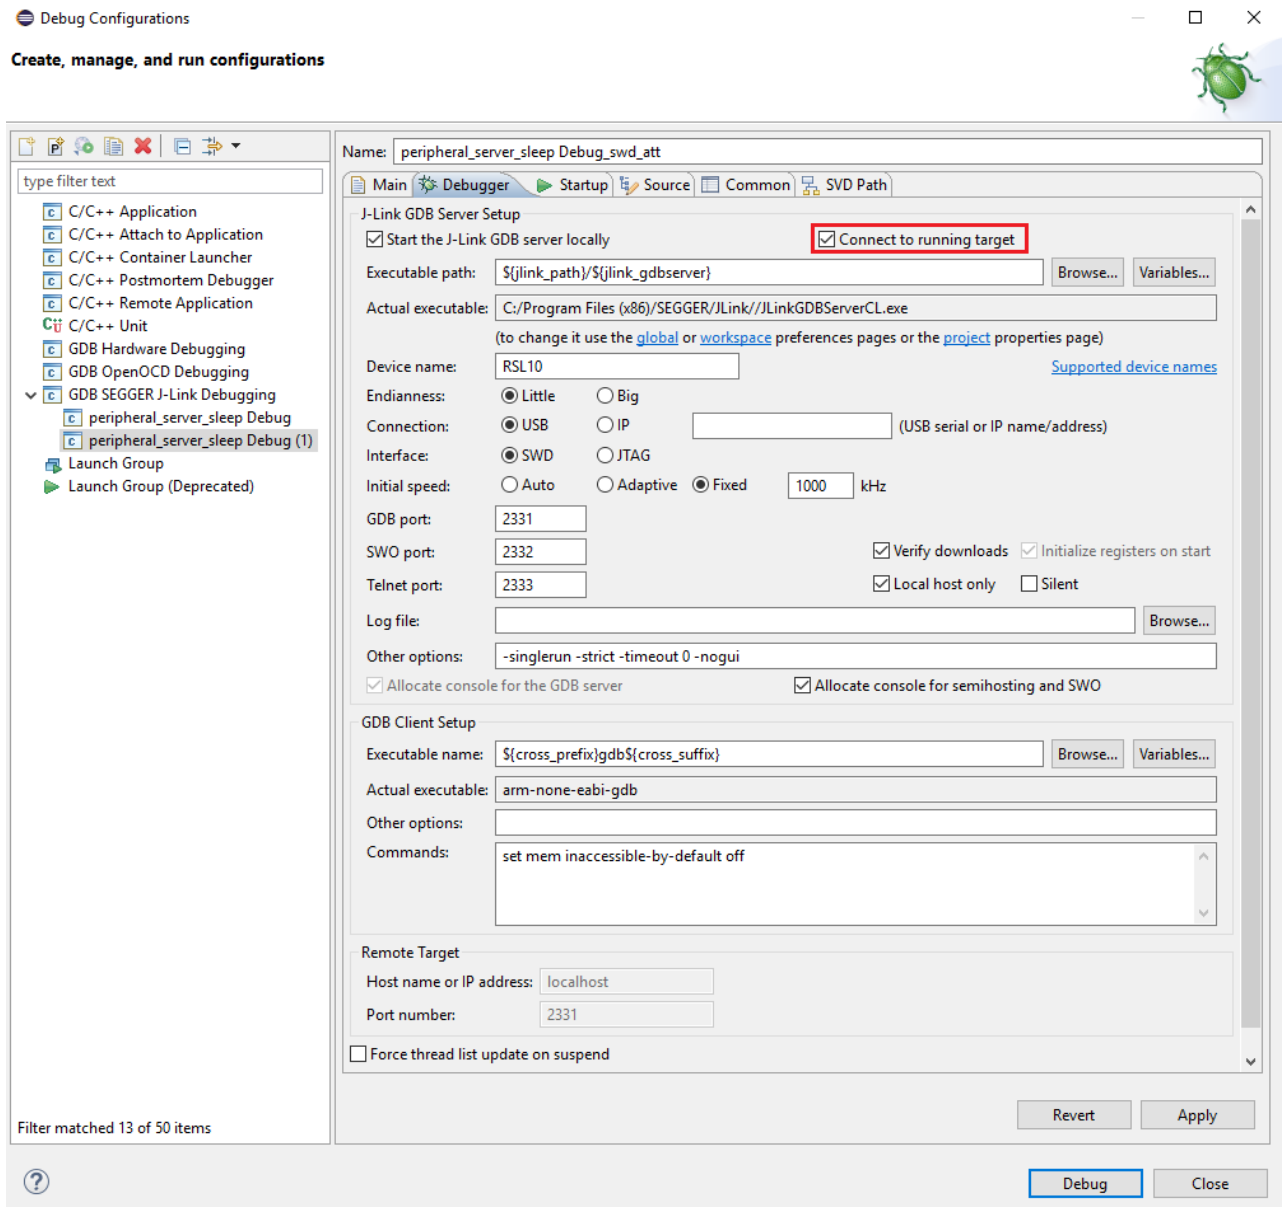
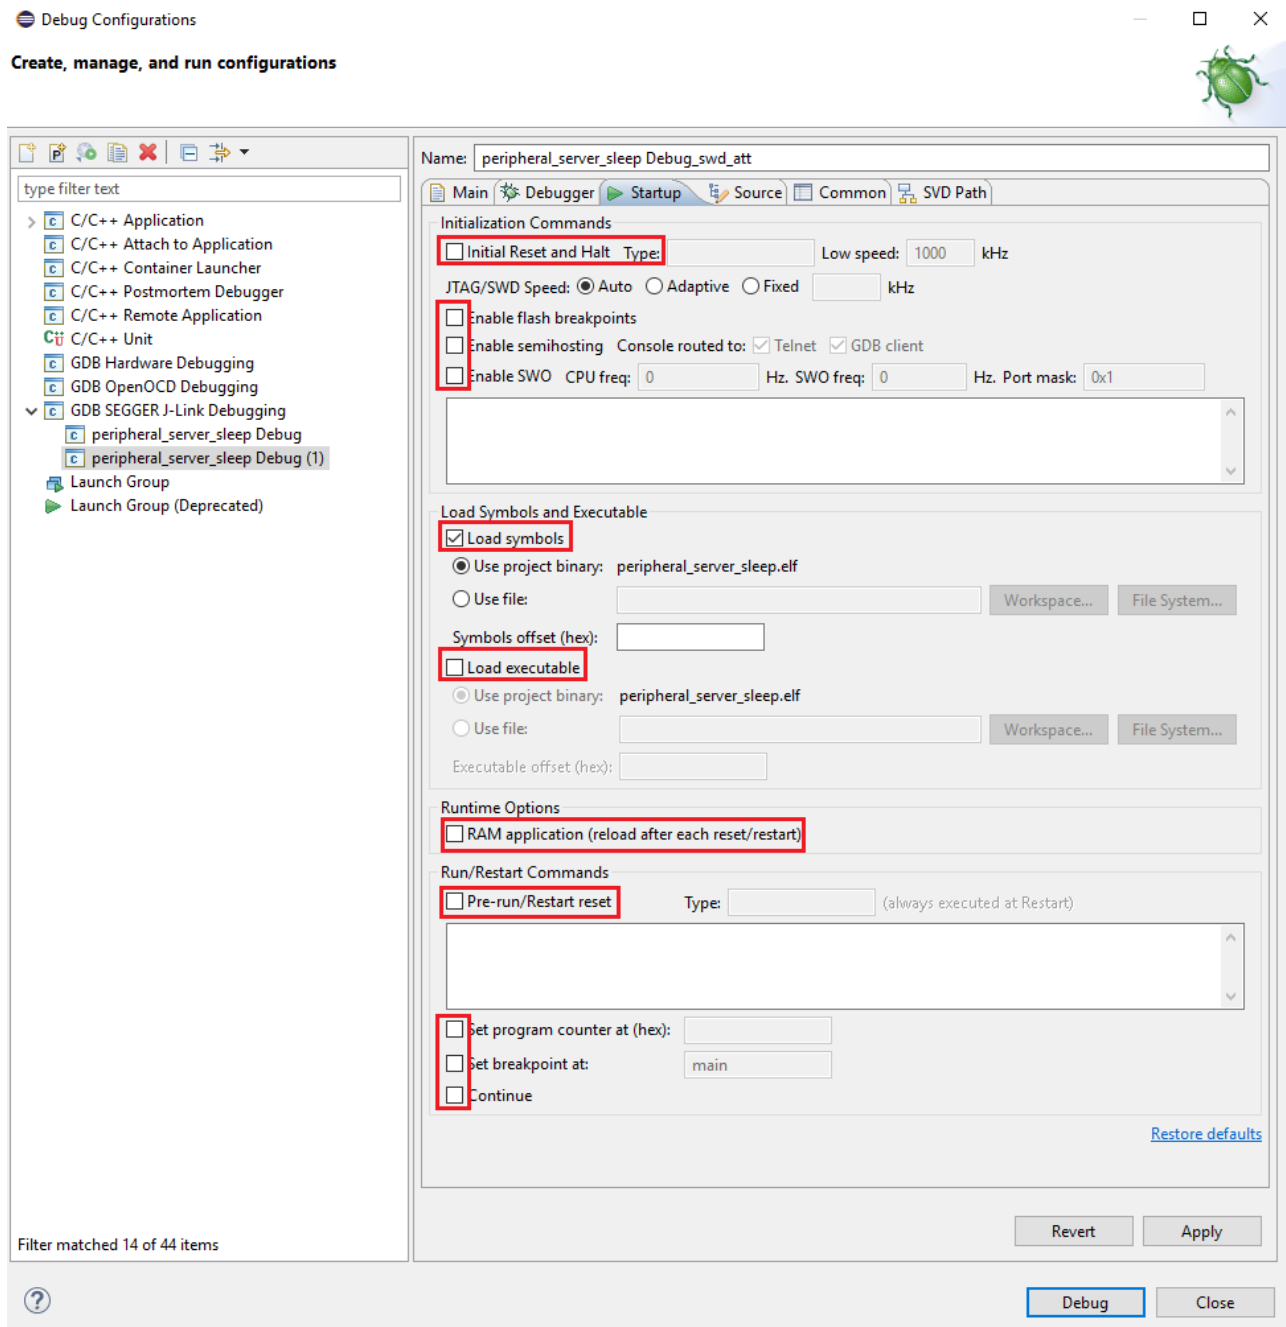

Figure 48. Debugger Tab: Debug Session that Connects to the Running Target
Figure 49. Startup Tab: Debug Session that Connects to the Running Target
- ii. Adjust the displayed values for your configuration then click on **Apply** (see the figure "Debugger Tab: Debug Session that Connects to the Running Target" (Figure 48) and the figure "Startup Tab: Debug Session that Connects to the Running Target" (Figure 49)).